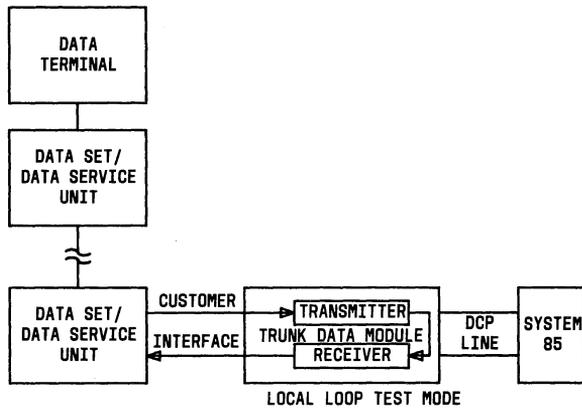

Fig. 10—Local Loop Test Diagram
3.13 The trunk data module is placed in the local loopback mode by placing the LOC LOOP/REM LOOP switch in the LOC LOOP position. A data terminal and a data set or data service unit is required for this test which provides an internal loopback prior to DCP link interface. The EIA interface is active in this mode and the data transmitted by the terminal is looped back to the terminal. Check the data transmitted against the data displayed on the DTE. The test is passed if no errors are found. During the local loopback test (Fig. 10), the TEST IN